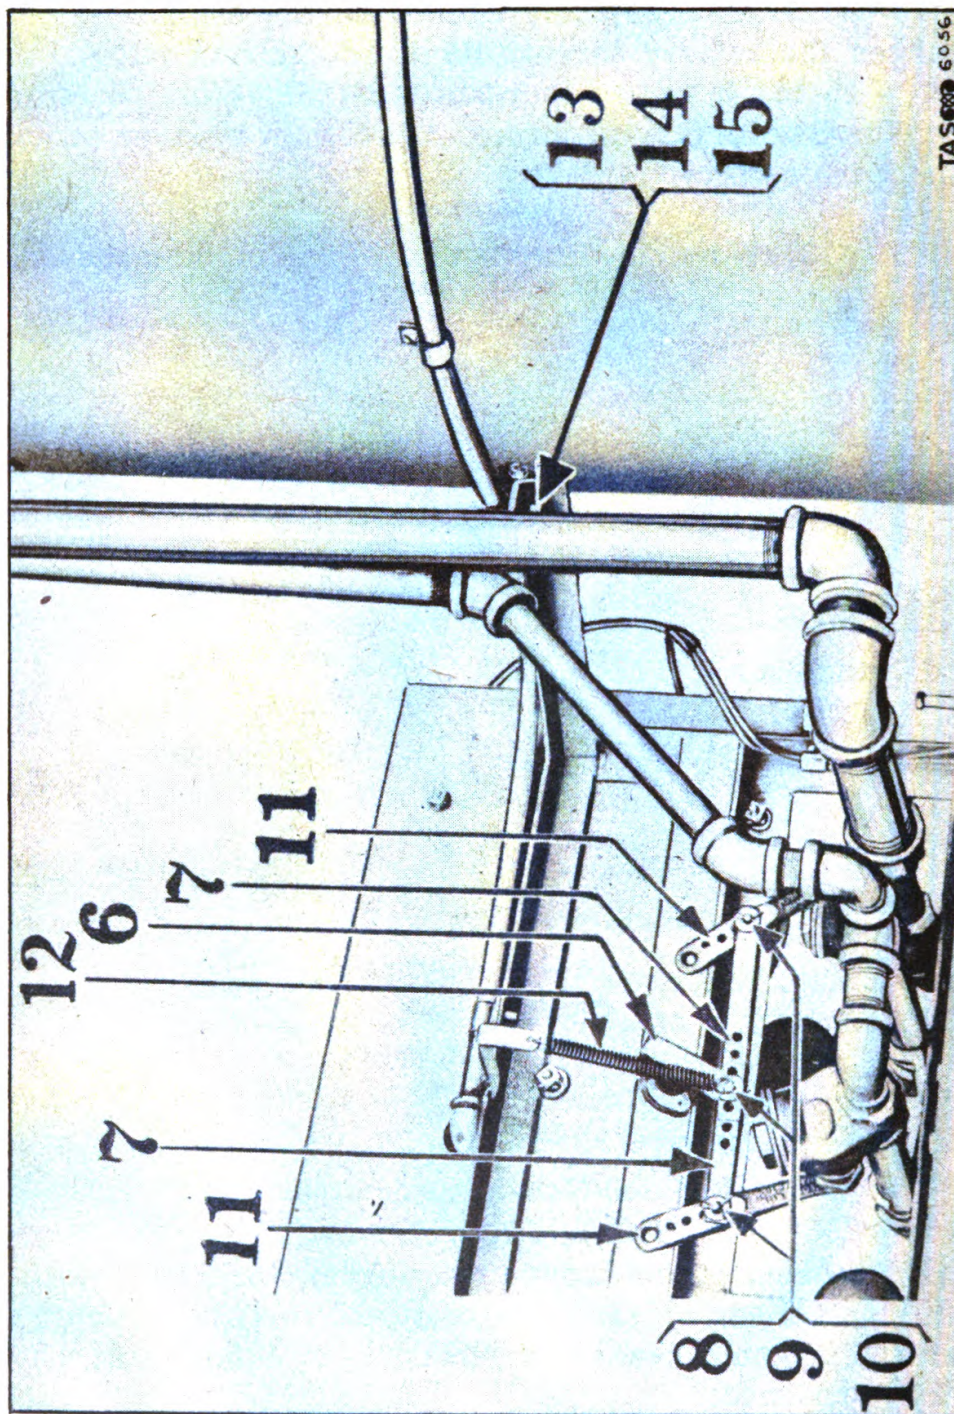

Fig 56 Generator Control Panel, Rear View. (See opp. page.)
f. Generator control panel. (1) A front view of the generator control panel is shown in figure 56. On this panel are the dial thermometer, the spray nozzle pressure gage, and the generator control lever. There is no spray nozzle pressure gage on some machines. Where this gage has been eliminated, the spray nozzle pressure gage piping has been removed and a pipe plug put in the tapped hole on the spray nozzle manifold.
(2) Function of the thermometer is to register the temperature of the special oil-vapor mixture - that is, of the "smoke" - at the spray nozzles in the spray nozzle manifold. The dial is connected to the spray nozzle manifold by means of a mercury-filled tube which runs from the dial to an instrument bulb embedded in the three pipe nipples at the center of the manifold. During the run of the generator the operating range is 875-925 degrees Fahrenheit, and the dial reading should be kept within this bracket.
Nomenclature for Figure 56.